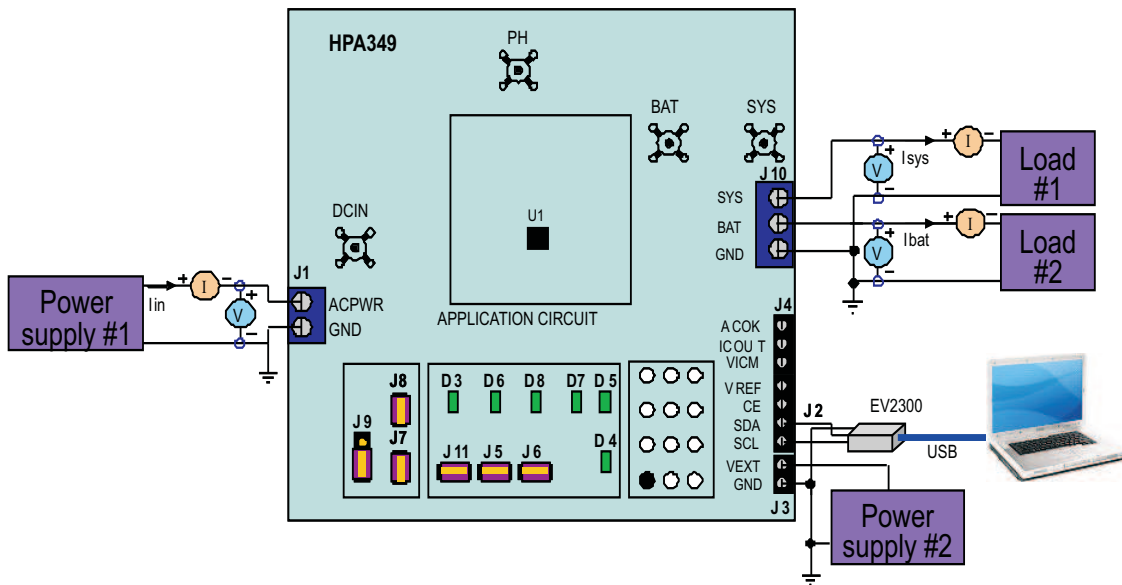

Figure 4. Test Setup for HPA349
- 2.4.3.3 Connect the output of the Load #1 in series with a current meter (multimeter) to J10 (SYS, GND). Make sure a voltage meter is connected across J10 (SYS, GND). Turn on the power of the Load #1. Set the load current to $4.0A \pm 50mA$ but disable the output. The setup is now like Figure 4 for HPA349. Make sure $I_{bat} = 0A \pm 10mA$ and $I_{sys} = 0A \pm 10mA$.